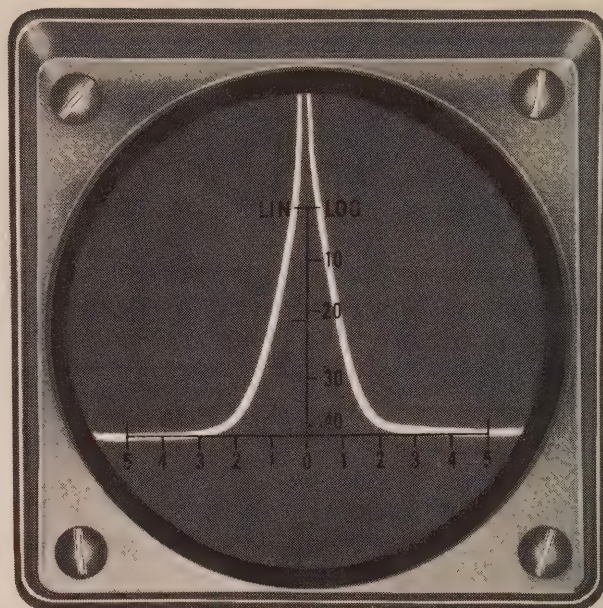
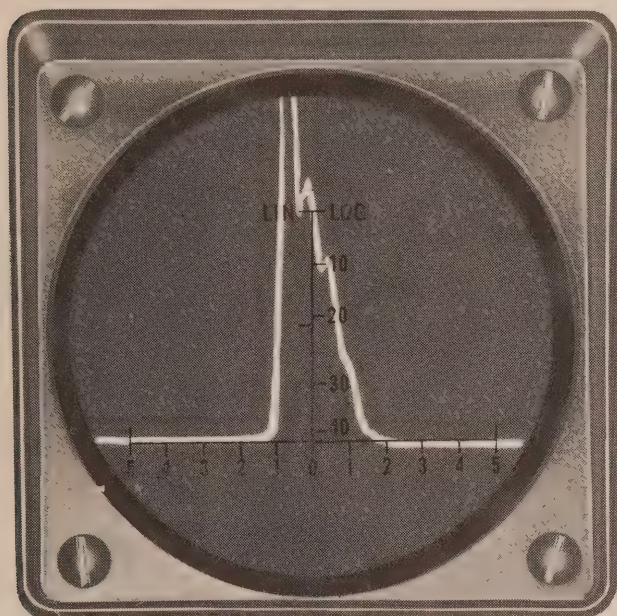

Figure 21
Figure 22
- ( ) Compare the pip on the CRT screen with the pip shown in Figure 21. If there is any ringing or flyback on either side of the pip, as shown in Figure 22, adjust the core of transformer T1 to minimize it. Only a slight adjustment should be necessary from the factory preset position.
After the above adjustment, if there appears to be a considerable amount of ripple on both sides of the pip, or there are side pips such as shown in Figure 22 (with an unmodulated input signal), a possible cause is the neon lamp voltage regulator (NE-83-A). Refer to Pictorial 5, fold-out from Page 21, and interchange the leads from lamp FC.